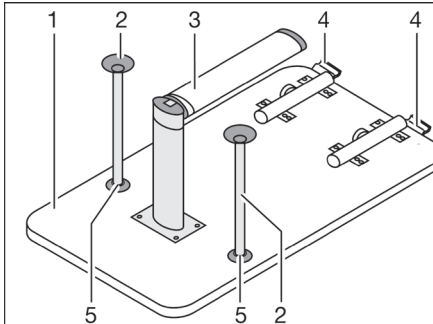

Fig. 54 Bed foundation
- ▶ Lift the front of the table-top (Fig. 54,1) by approx. 45°.
- ▶ Fold the lower part of the fold-out leg (Fig. 54,3) by 90°. Depending on the model, pull the lower part of the fold-out leg down or push the release knob.
- ▶ Press the release button on the lock (Fig. 54,4).
- ▶ Depending on the model, insert both additional support legs (Fig. 54,2) into the holders (Fig. 54,5) on the bottom side of the table.